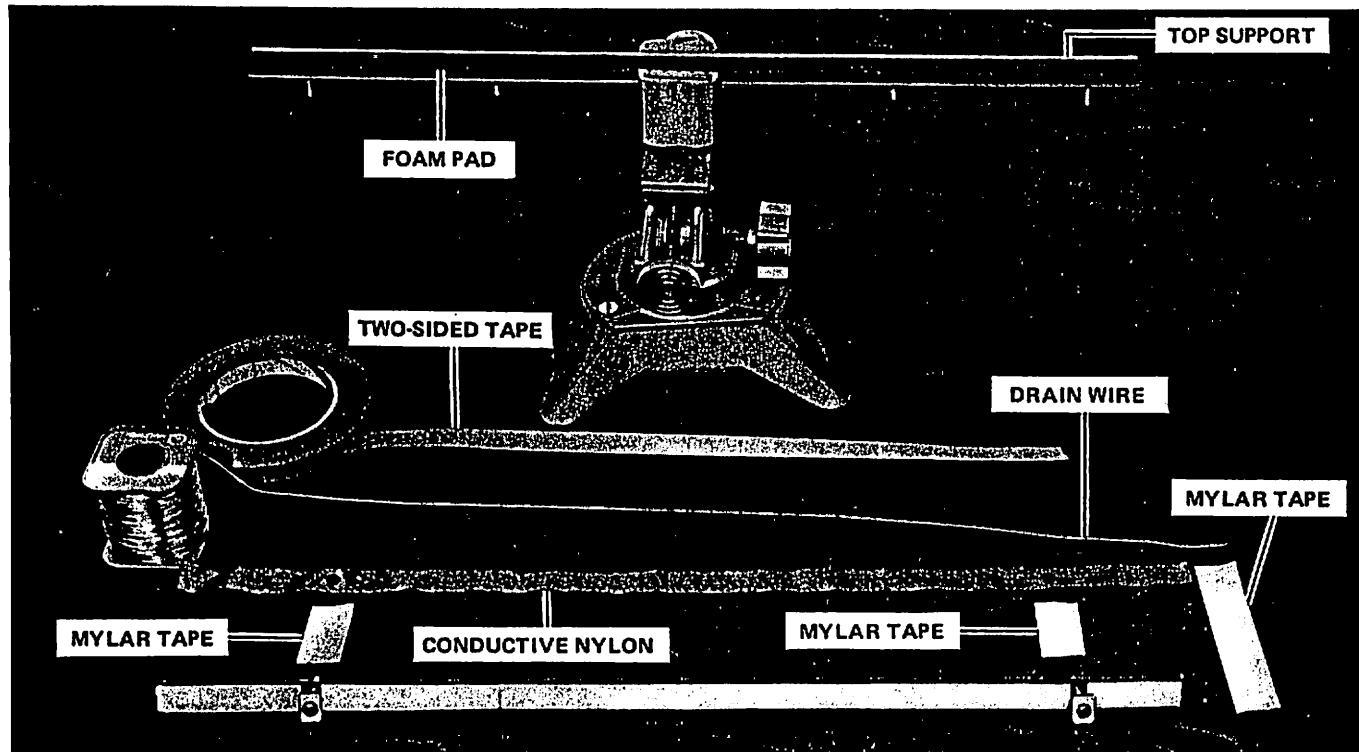

FIGURE 8-5 MODIFICATION MATERIAL
5. Apply two strips of double sided tape to completely recover the foam pad (Figure 8-5).